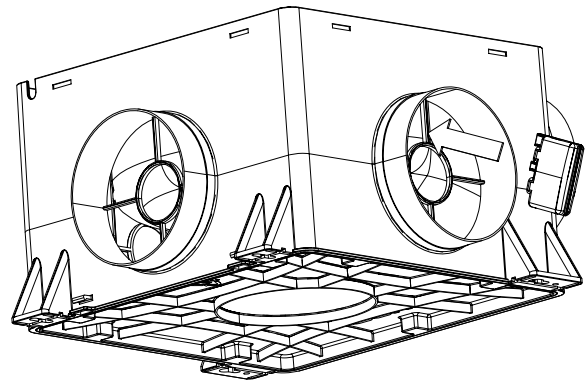

Figure 14: snap the CO2 box sensor into the duct port
4. Pass the cable of the CO2 Box sensor through the opening on the inside of the casing at the level of the corresponding duct port. Then pass the cable of the CO2 Box sensor through the relevant opening (marked with 'sensor cable') of the motor plate according to the diagram shown below in Figure 14: four options for wiring a maximum of 1 CO2 Box sensor to the circuit board.